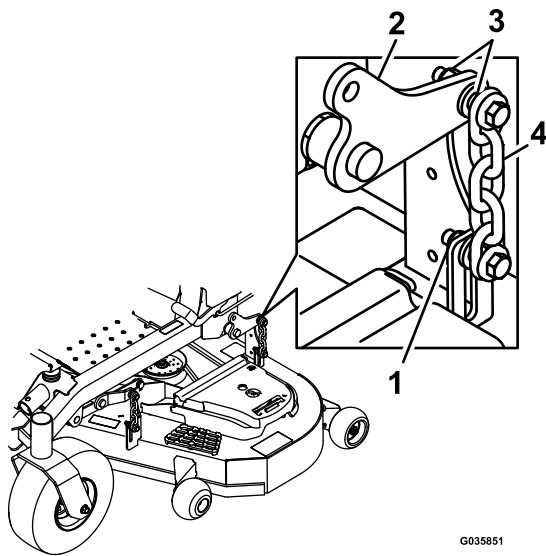

Figure 83
15. Loosen the locknuts (Figure 83) on all 4 corners and ensure that the mower deck is sitting securely on all 4 blocks.